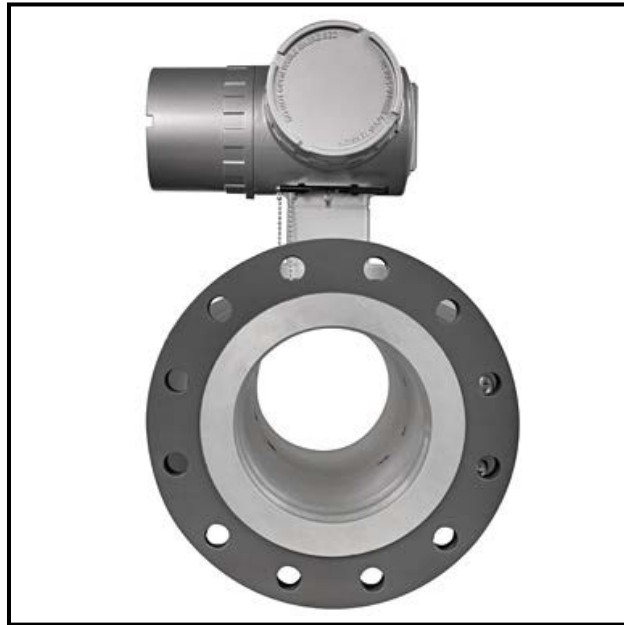

Figure 10: *Sentinel LCT8* mounting flange
3. Align the flange mounting holes as shown in *Figure 10* below.